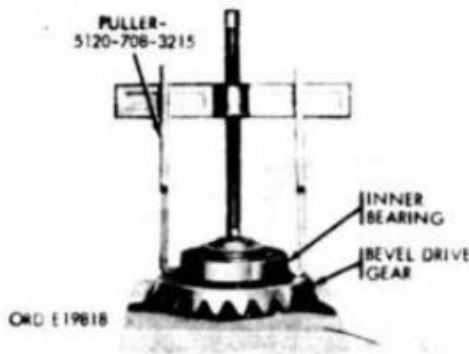

Figure 86. Removal of inner bearing from bevel drive gear
**69. Disassembly of Bevel Drive Gear (Fig. 86)**
Install puller 5120-708-325 to bevel drive gear inner bearing as shown in figure 86. Remove the bearing from bevel drive gear.